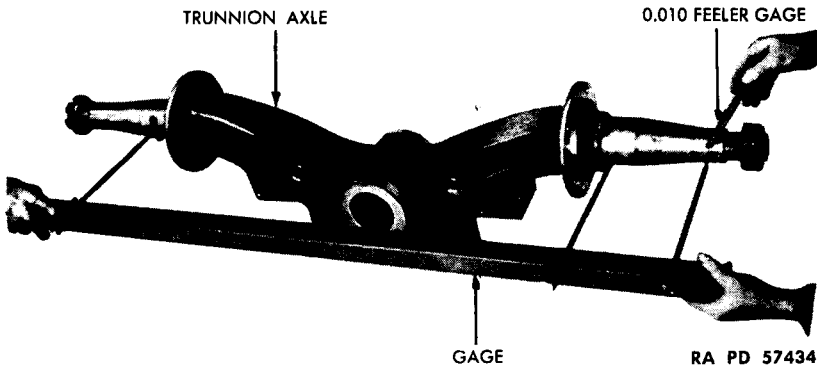

Figure 13 — Checking Trunnion Axle for Bend
(4) **CHECK FOR BEND** (fig. 13). Place axle gage in position on front side of trunnion axle with the single-pronged end of gage held firmly against the inner bearing surface. Adjust the double prongs on the opposite end of the gage until they contact the inner and outer bearing surface. Now move the gage over to the rear side of the axle, and then to the top side. If either of the double prongs fails to make contact at the rear side or the top side, a bent axle is indicated. Use a feeler gage to determine the amount of bend. If bend is in excess of 0.010 inch, straighten axle. If checking three sides of one spindle reveals no bend, turn the gage end-for-end and check the opposite spindle in the same manner, without disturbing the setting of the prongs.